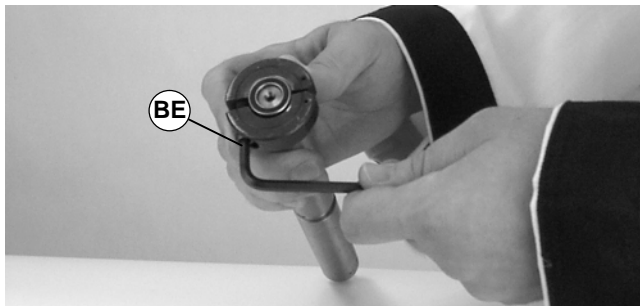

Figure 40
2. Using 3/16" hex key wrench (BE of Figure 40), tighten tool.